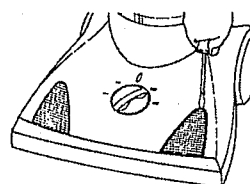

Figure 21
2. Using a flat-edged screwdriver, unlatch the top of the Headlight Lens from the Lens Receptacle. (See Figure 21.)